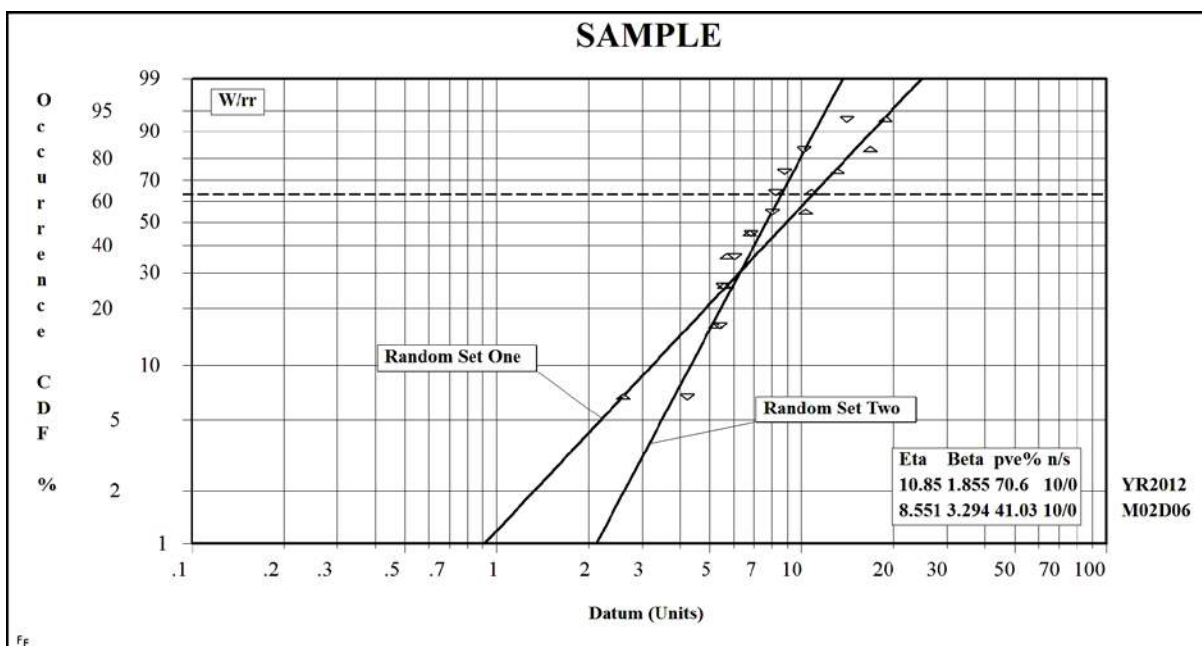

Figure 6: Quick Monte Carlo Plot
- D) With Home group still visible/active, repeat selecting <Enter> twice each time to get two or more different samples. You have a plot like Figure 6 showing sample scatter—later we’ll show the benefits of using this MC technique for serious work. SuperSMITH Weibull is configured for getting productive results quickly. In the Sample menu, you can change the model, change the quantity of data in a set, and change set quantity. With just a few selections, you’ve automatically filled the data grid and made a plot. This is one way to get a quick set of data for using the software, trying different analysis features, and getting familiar with software options.